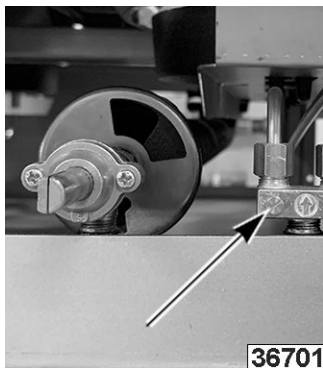
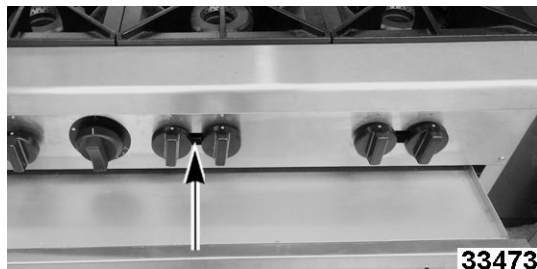

Fig. 42
Fig. 43
1. Locate pilot adjustment screw (1, Fig. 42) through the access hole in manifold cover (1, Fig. 43).